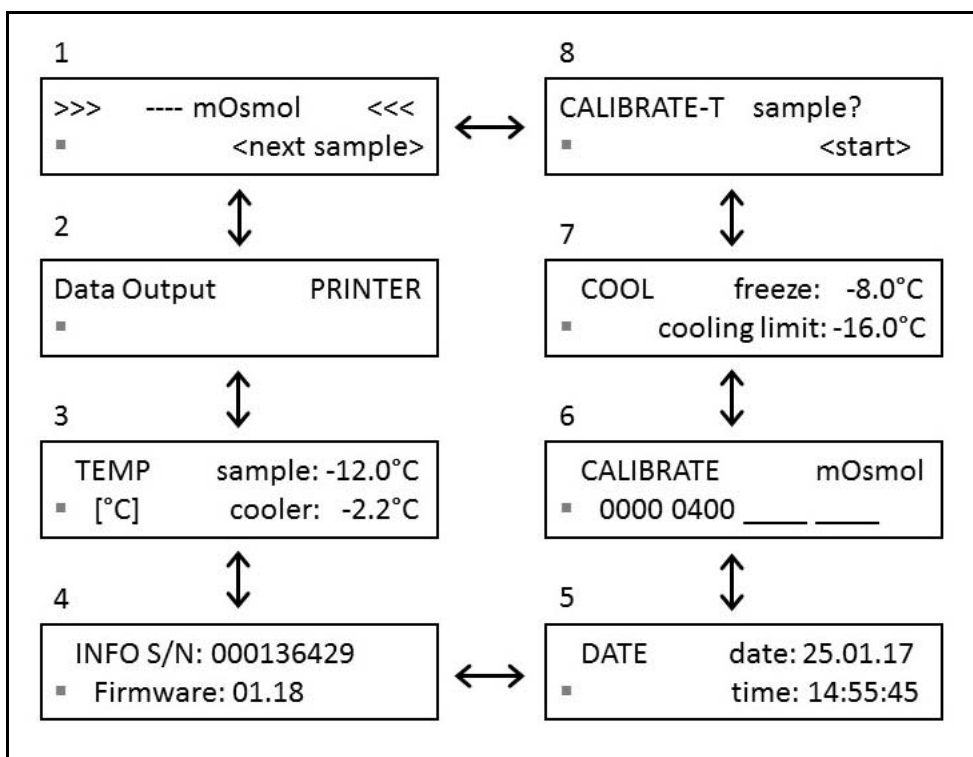

Fig. 8 Menu path
After completion of the self-test, the display shows the measurement screen (see Fig. 8 screen 1). The cursor is placed on the rhombus field. As shown in Fig. 8, it will take you to the relevant menu points.
1. Select CALIBRATE-T in the osmometer menu (screen 8 in Fig. 8).
- changing the temperature settings (see fig. 8 screen 7)
*Process* 1. To perform measurements, choose screen 1 (Fig. 8) with the ▲ ▼ buttons and push the <START> button. While the measurement is running, the screen displays the sample temperature and the elapsed time.